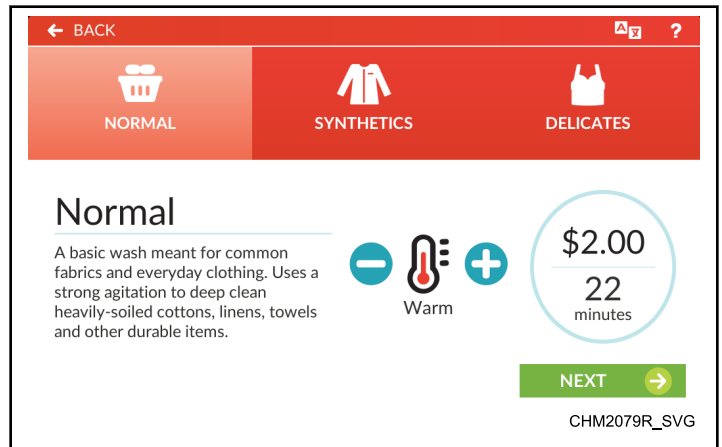

Figure 25
2. Select a cycle from the cycle options menu *Cycle Preset*. Select the desired temperature, then touch NEXT (refer to *Figure 25*).